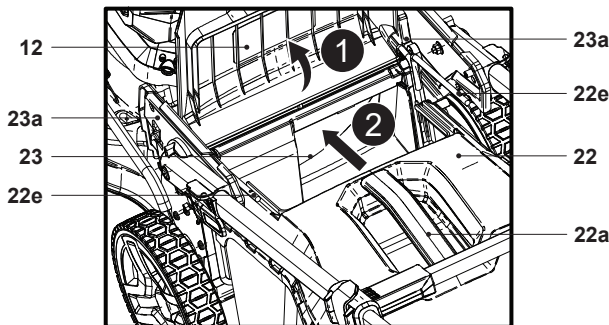

Fig. 6
3. Open the deflector guard (12) and hold it in position (Fig. 6, step 1).
4. Carry the grass catcher (22) by its carry handle (22a).
5. Align the two catcher hooks (22e) with the spring hooks (23a) and hang the grass catcher (22) onto it (Fig. 6, step 2).
6. Carefully release the deflector guard (12) afterward.